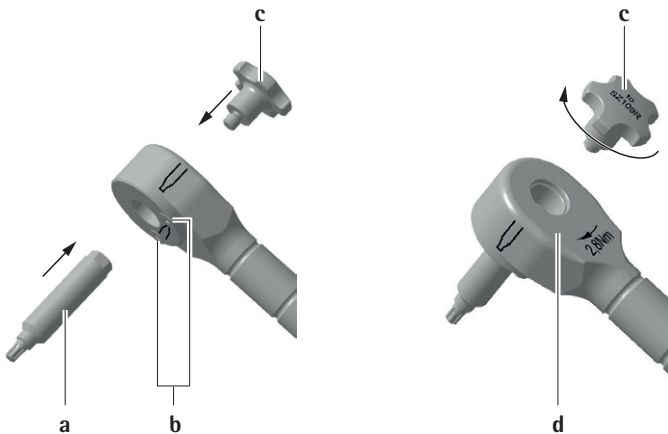

Fig. 23
- ▶ Reassemble the star bit **a** in the torque wrench by inserting it into the bit cavity on the inner surface of the torque wrench head, as shown on the left side of the image, see Fig. 23.
- ▶ Turn the thumb screw **c** clockwise and attach it to the rear of the wrench head. Securely tighten the thumb screw, as shown on the right side of the image, see Fig. 23.